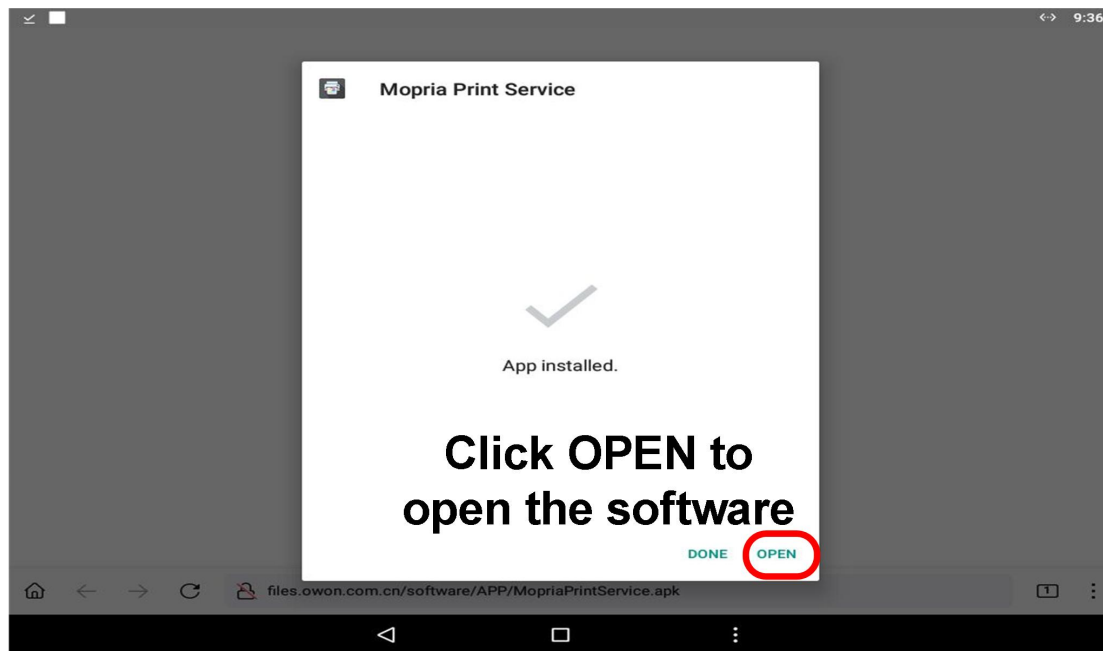

Figure 5
- 2、In website install print app, steps as shown in Figure 1 to Figure 5.
⑤ After install success, click **OPEN** can open print app. As shown in Figure 5.